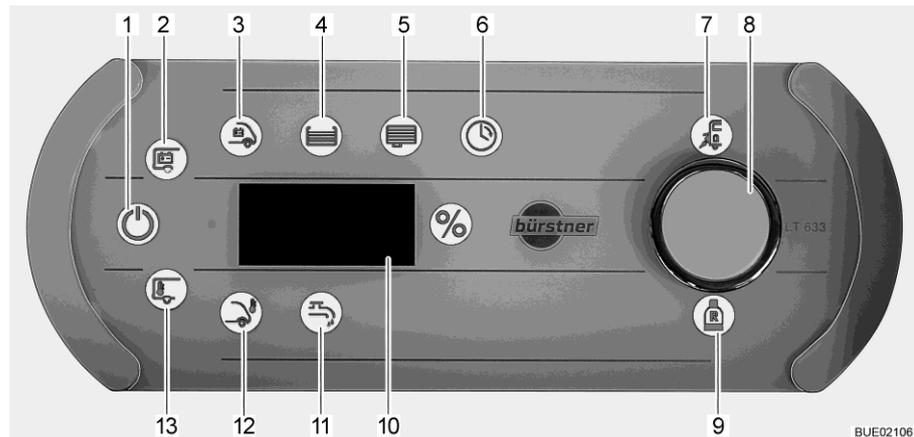

Fig. 189 Panel LT 633
The mains check symbol (Fig. 189,7) lights up when the vehicle is being supplied with 230 V line voltage. The batteries are charged.
Switching on: ■ Briefly press the rotary knob (Fig. 189,8). The 12 V ON symbol (Fig. 189,1) is lit. When the 12 V ON living area battery (Fig. 189,2) symbols flash three times, the power supply has been deactivated.
Cancelling deactivation: ■ Press and hold rotary knob (Fig. 189,8) for approx. 5 seconds. The living area battery symbol (Fig. 189,2) is flashing and "On" appears on the display (Fig. 189,10).
■ Release the rotary knob. The 12 V ON symbol (Fig. 189,1) is lit. The power supply has been switched on.
- Turn the rotary knob until the water pump symbol (Fig. 189,11) lights up. The current switching state ("On" or "OFF") is shown on the display.
The water pump symbol (Fig. 189,11) lights up when the water pump is switched on.
- Turn the rotary knob until the living area battery symbol (Fig. 189,2) lights up. The battery voltage of the living area battery appears for approx. 20 seconds on the display (e.g. "13,8U" for 13.8 Volt).
- Turn the rotary knob until the starter battery symbol (Fig. 189,3) lights up. The battery voltage of the starter battery appears for approx. 20 seconds on the display.
- Turn the rotary knob until the water tank symbol (Fig. 189,4) lights up. The symbol "%" is lit. The fill level of the water tank appears for approx. 20 seconds on the display.
- Turn the rotary knob until the waste water tank symbol (Fig. 189,5) lights up. The symbol "%" is lit. The fill level of the waste water tank appears for approx. 20 seconds on the display.
- Gas reserve** The reserve gas bottle symbol (Fig. 189,9) lights up when the reserve gas bottle is in use.
- Turn rotary knob until the internal temperature symbol (Fig. 189,13) or the external temperature symbol (Fig. 189,12) is lit. The selected temperature appears on the display.
- Turn the rotary knob until the clock symbol (Fig. 189,6) is lit.